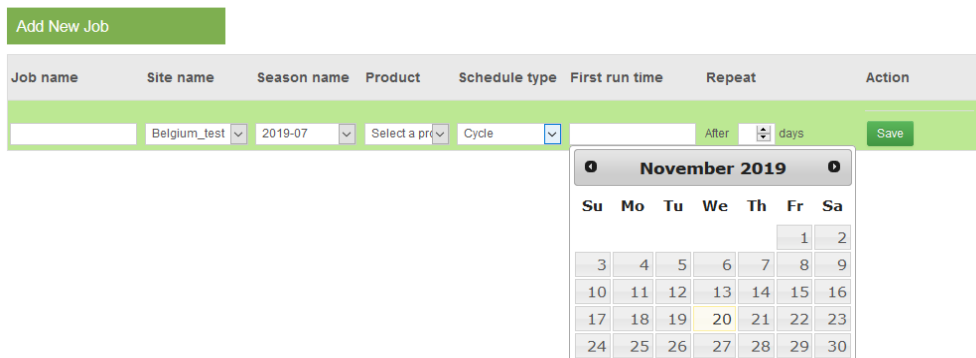

Figure 4-20. Adding “Cycle” scheduled type
- “Cycle” – this option allows to schedule a task at a certain date and then to reschedule the task after a number of specified days (Figure 4-20). For example, a configuration with the start date of 1st of March and “Repeat after” set to 4 days will execute the scheduler on 1st of March then on 5th of March, then on 10th of March and so on.